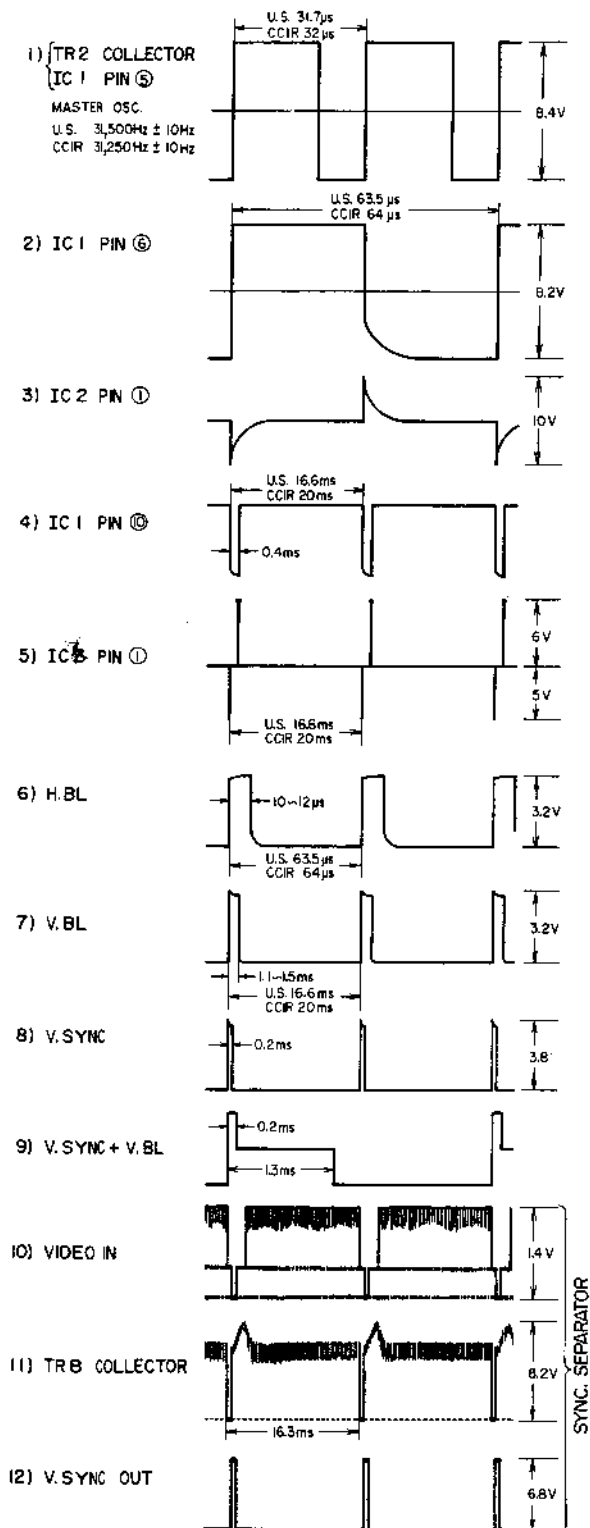

Fig. 2-4 S.S.G. CIRCUIT REFERENCE WAVEFORM.
S.S.G. Circuit reference waveform is shown in Fig. 2-4.
- (1) Confirmation of Master Oscillator Frequency